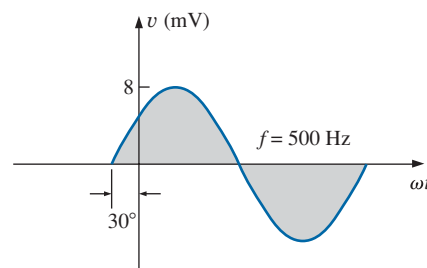

FIG. 13.94
32. Write the analytical expression for the waveform of Fig. 13.94 with the phase angle in radians.